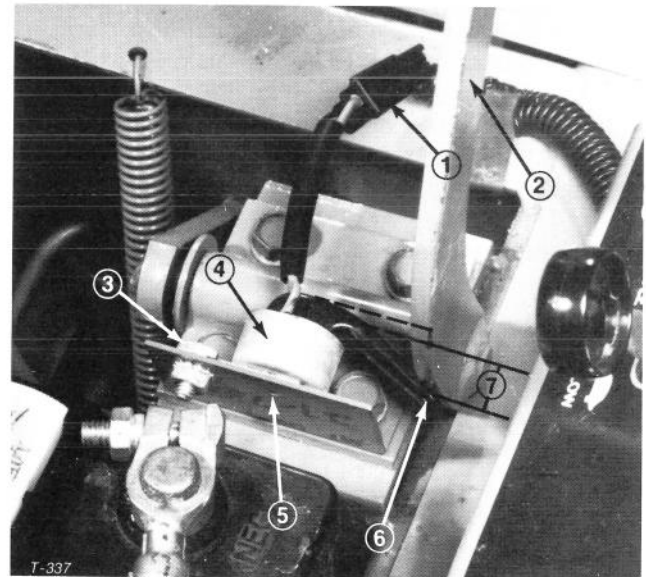

Figure 43
2. Disconnect negative battery cable from battery and separate wire harness connectors (Fig. 43).
3. Move PTO lever to the ON position and remove capscrew and locknut holding switch against mounting bracket (Fig. 43).
4. Install new switch with capscrew and locknut. Move PTO lever to OFF position. When lever is in its normal, released position, the switch arm must bend about 1/2 inch (13 mm) (Fig. 43). If switch arm does not bend 1/2 inch (13 mm), bend the mounting bracket to get the correct adjustment.